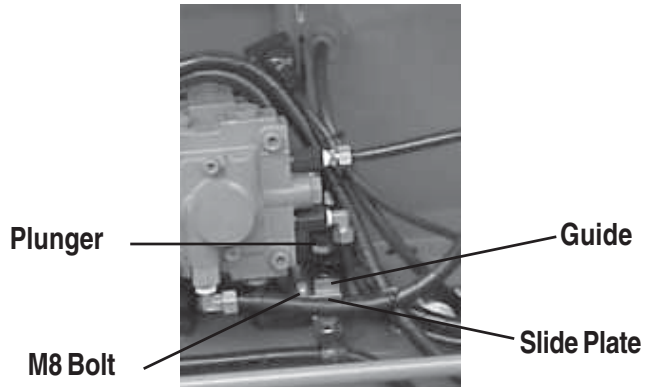

Figure 31. Adjustment of Neutral Position
2. If roller travels forward with the ball of ball plunger remaining in V slot of the guide, loosen M8 bolt and slide the slide plate slightly toward the engine. If the roller travels backward, slide the plate towards side plate (Figure 31).